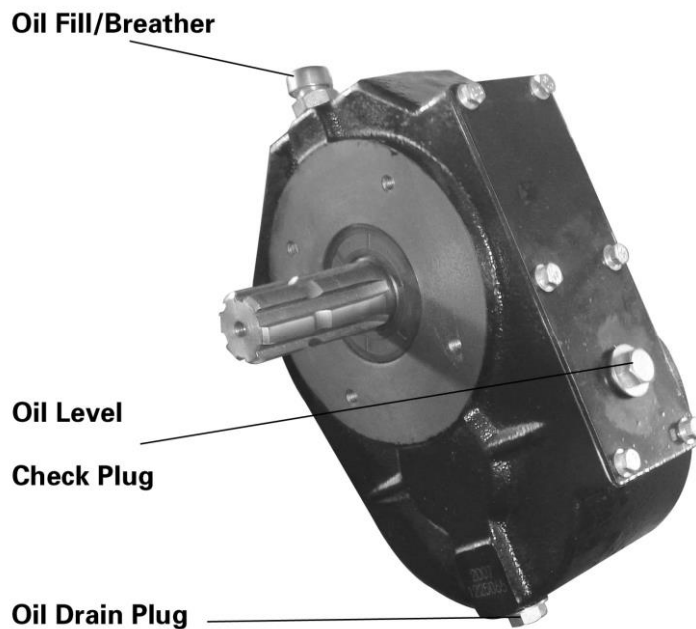

Figure 6 -- Gearbox Oil Servicing Points
2. Remove the OIL LEVEL CHECK PLUG from the generator gearbox (Figure 6).